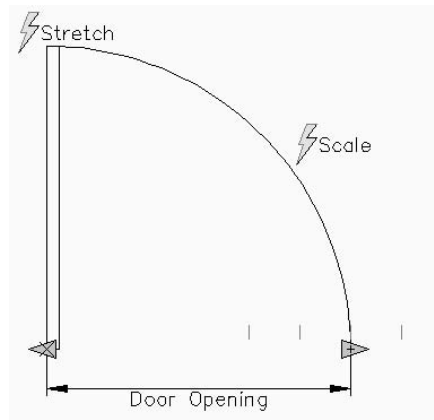

FIGURE C.17: Dynamic door block with increment markers for the opening widths
5. Remove the grips from the parameter. It now has the increment marker for the door opening widths (see Figure C.17).